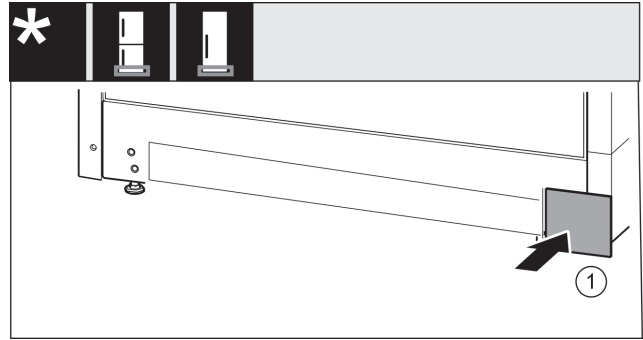

Fig. 15
- ▶ Put the cover back on the other side. Fig. 15 (1)